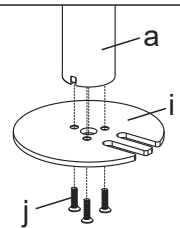

Figure 3
1. Install the Grommet Base Plate (i) to the Pole (a) using 3pcs M5x14 Bolts (j), and tighten using the Allen Key (y), see Figure 3.